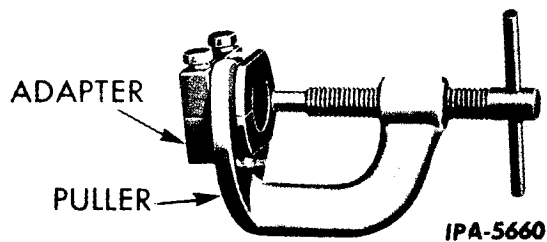

Fig. 30 - Inner Race Puller Tool SE-839.
1. The inner bearing race can be removed readily from the rotor by using a puller and adapter as shown in Fig. 30. It is necessary to remove the inner bearing race when removing or inserting rotor shims for preloading the rotor bearings.